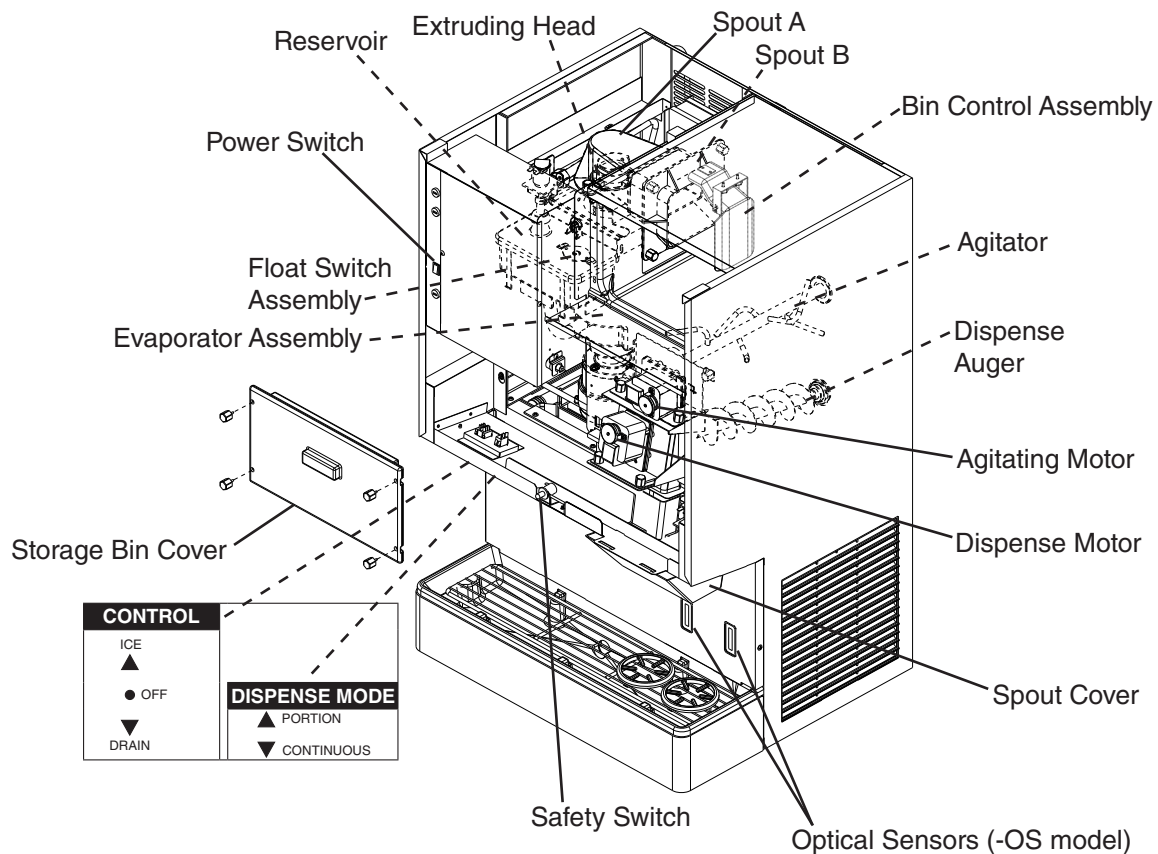

Fig. 5
- 2) Move the control switch to the "DRAIN" position. See Fig. 5. Allow the water system to drain for 5 minutes.
- 4) Remove the motor bracket thumbscrews, first from the vertical plane and then from the horizontal plane. While holding on to the corresponding agitator or auger, move the agitating motor or the dispense motor towards you. Remove the agitator and the dispense auger from the storage bin. See Fig. 5.